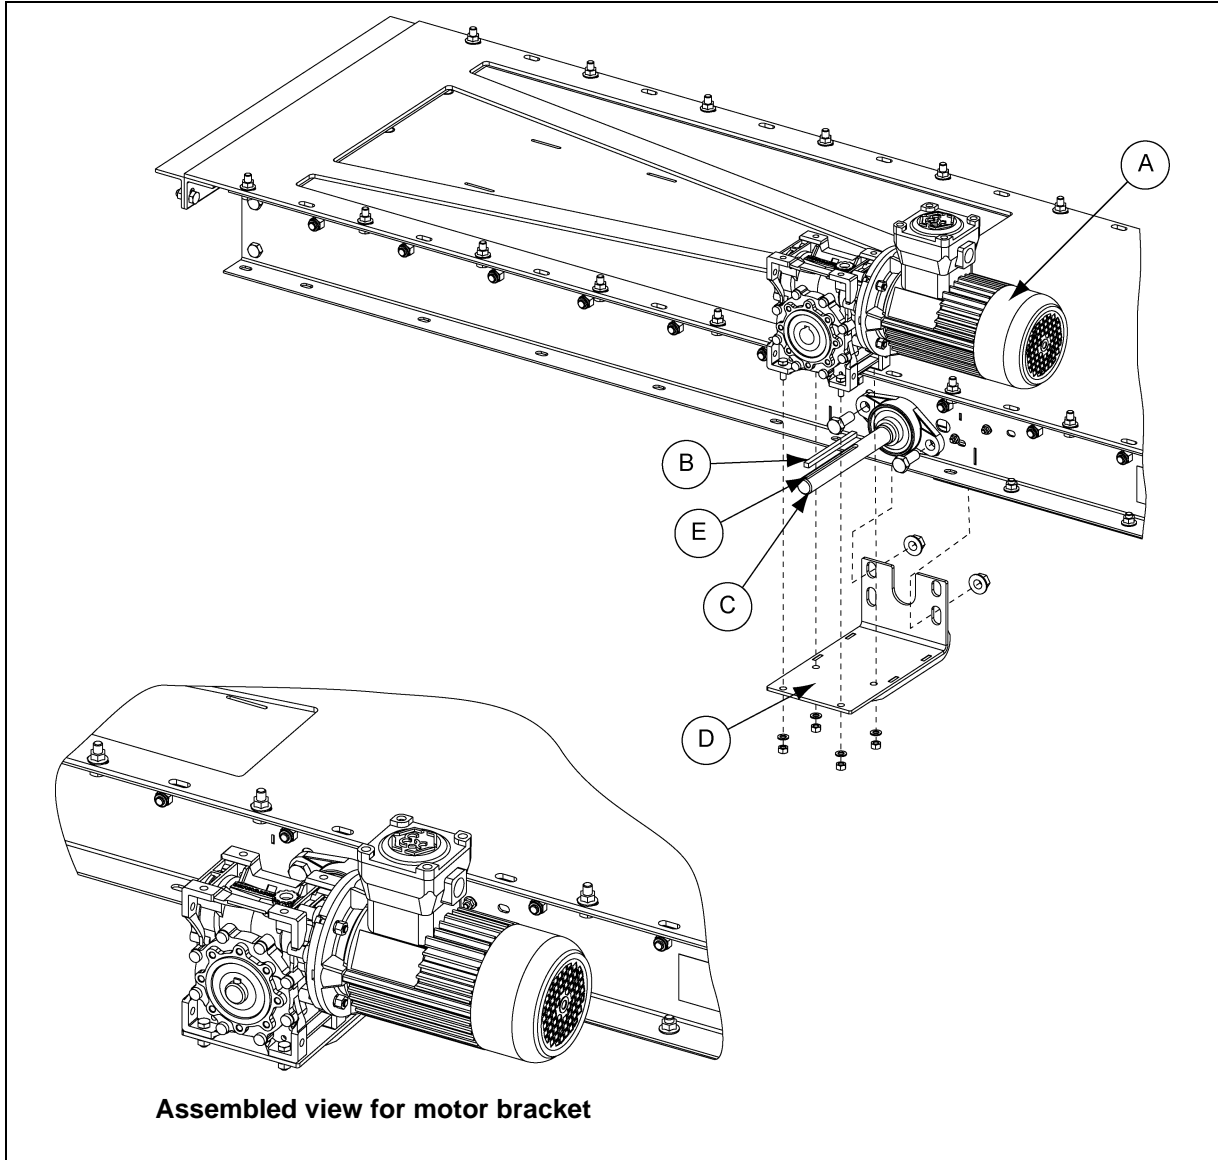

Figure 3E Installing the Motor Bracket - In-Line
1. Install the motor bracket (D) to the gate. Then attach the motor (A) to the bracket (D) as shown in Figure 3E, using the provided hardware.